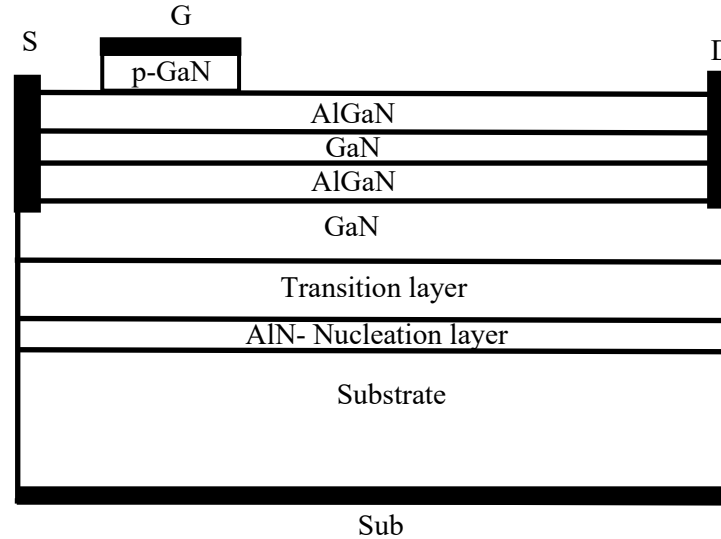

Fig. 3
3 The cell structure in Fig. 3 is part of a power High Electron Mobility Transistor (HEMT) in GaN technology. The device has three main terminals, Source (S), Drain (D), Gate (G) and uses a Silicon substrate connected to a fourth terminal (Sub).